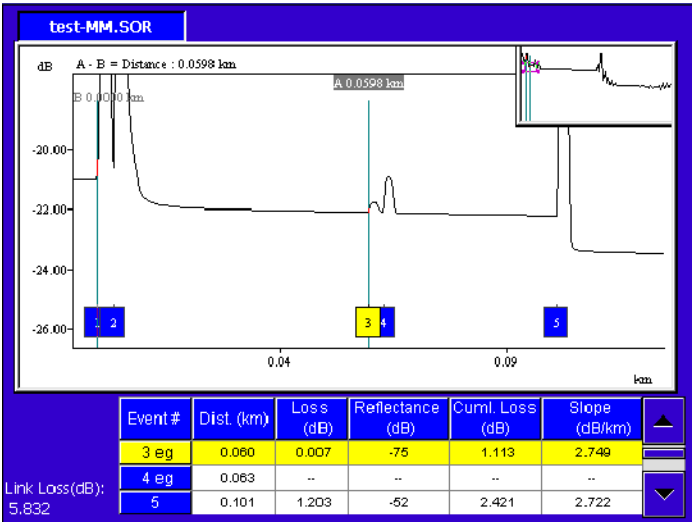

Figure 2-19: Events 3 and 4 are echoes of 1 and 2 and are grouped with each other
12. Look at events 3 and 4 shown in Figure 2-19.